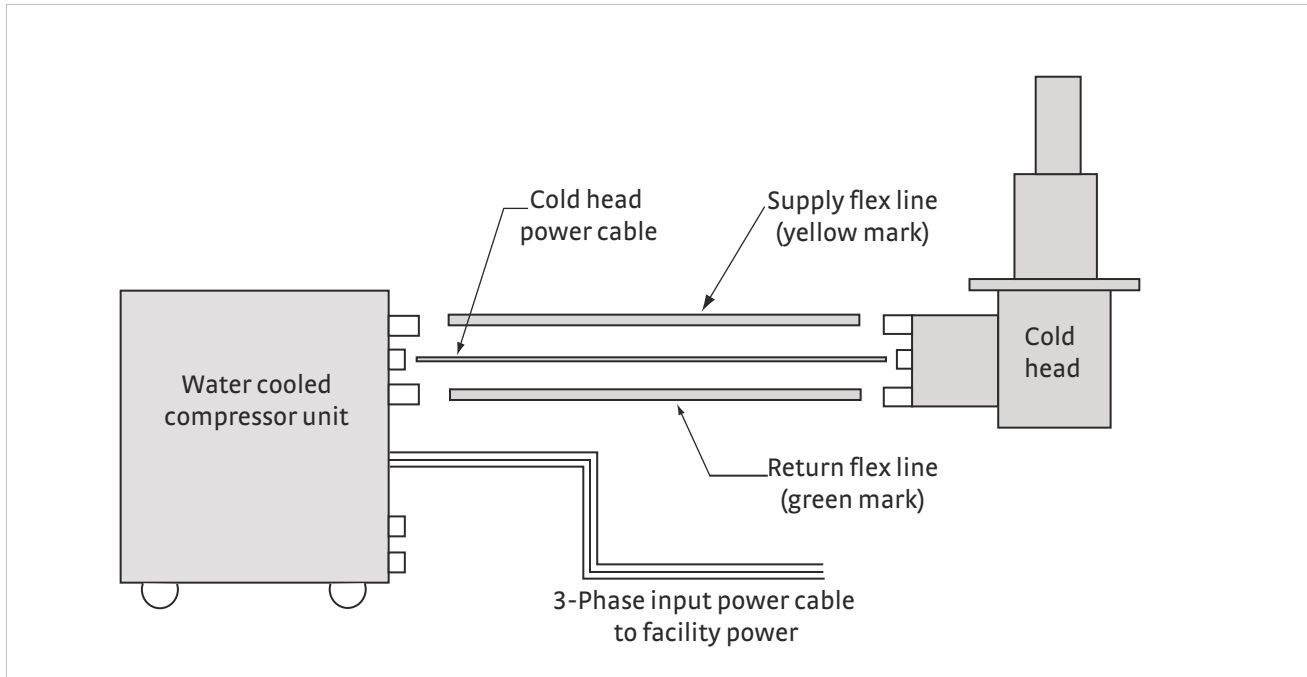

FIGURE 2-5 Closed cycle refrigerator
The cooling engine in the CRX-VF is a closed cycle refrigerator that uses compressed helium gas as the refrigerant. The main components of the CCR are the cold head, compressor unit, flexible helium lines, and the cold head power cable. The cold head is a two-stage, Gifford-McMahon (GM) cycle cryocooler. The compressor unit supplies the power to the cold head via the cold head power cable, and it supplies the high pressure helium gas to the cold head via the flexible helium lines. The compressor unit requires cooling water and 3-phase power for operation. FIGURE 2-5 illustrates the CCR.